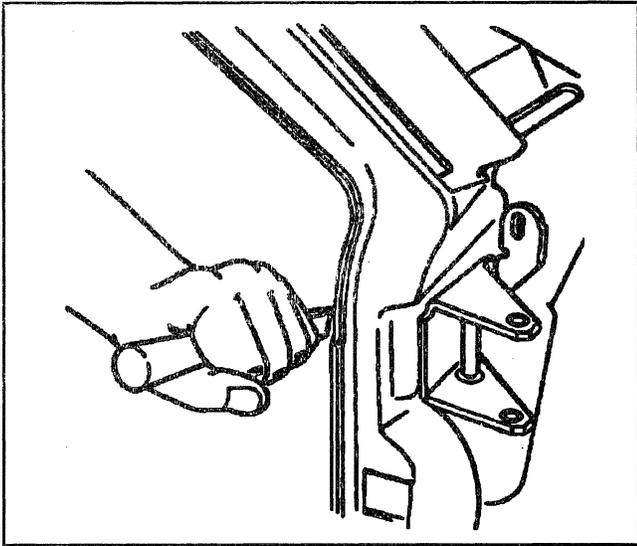

Figure 17—Chiseling Welded-On Hinge
E. Drive a chisel between the hinge and door pillar (Figure 17).